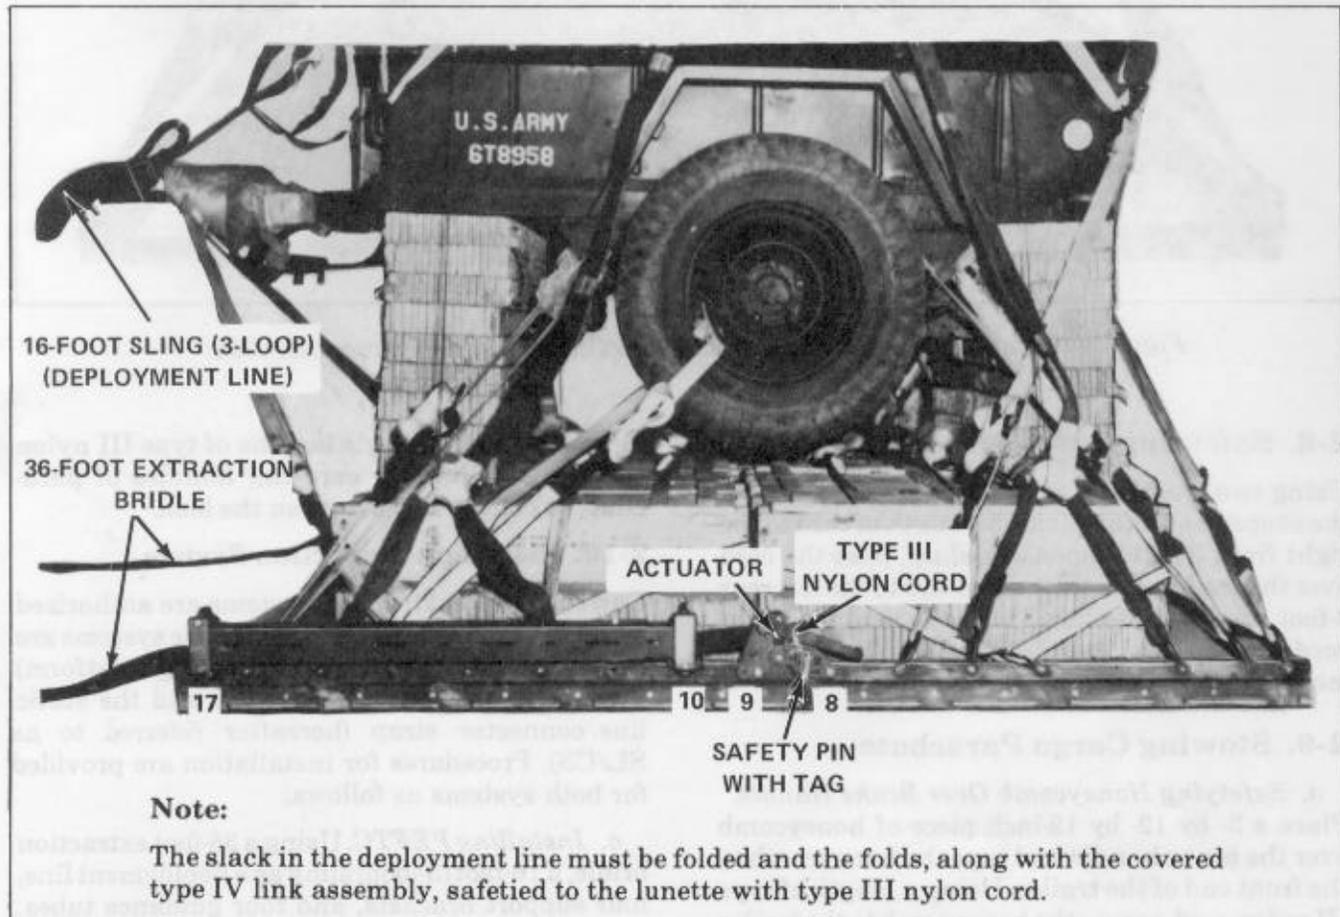

Figure 2-10. Components of PEFTC installed.
a. *Installing PEFTC.* Using a 36-foot extraction bridle, a 16-foot (3-loop) sling as a deployment line, four support brackets, and four guidance tubes, install the components of the PEFTC (fig 2-10) as outlined in FM 10-500/TO 13C7-1-5. Attach the support brackets to the 10th and 17th clevis holes in each platform rail. Use the "A" mounting holes in the actuators when attaching them to the rails in the 8th and 9th clevis holes. Attach one end of